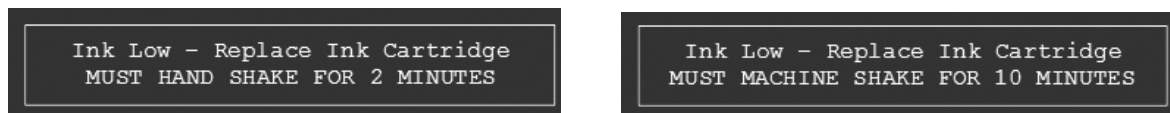

Figure 4-31: Ink Low Warning
- 1 During normal production, if the ink level falls below 20%, the printer prompts the user with one of the warnings (see Figure 4-31 on page 4-23).